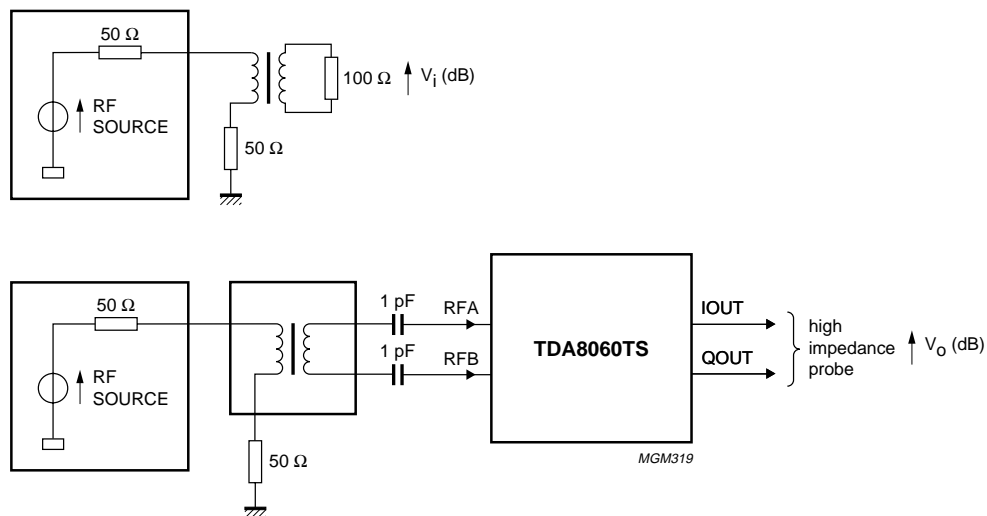

Fig.3 Gain control diagram for symmetrical RF input.
SYMMETRICAL RF INPUT (Fig.3)
4. Gain = $V_{o(dB)} - V_{i(dB)}$ (see Fig.3). Gain for symmetrical RF input
5. Gain = $V_{o(dB)} - V_{i(dB)}$ (see Fig.3). Gain for asymmetrical RF input